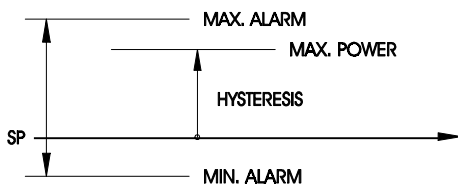

Fig. 1
- **CH=0: direct action, cooling, decreasing pressure:** the stage capacity increases if the input signal from the process variable - temperature or pressure - increases. Fig. 1